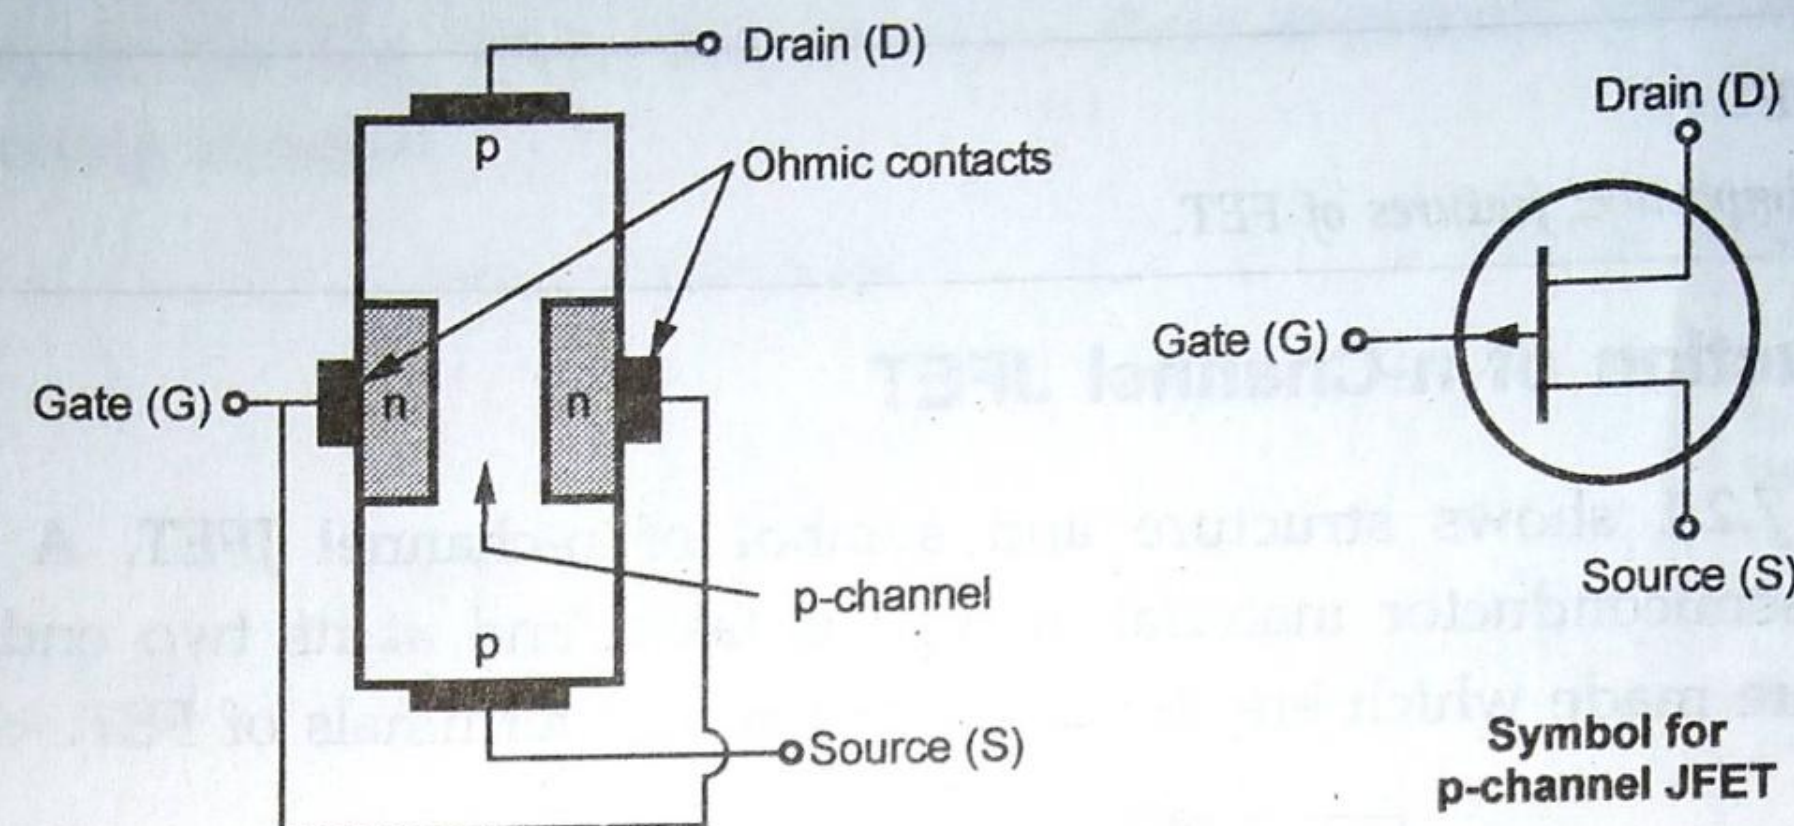

Fig. 7.3.1 Structure and symbol for p-channel JFET
- The device could be made of p type bar with two n type gates as shown in the Fig. 7.3.1. Then this will be **p-channel JFET**.